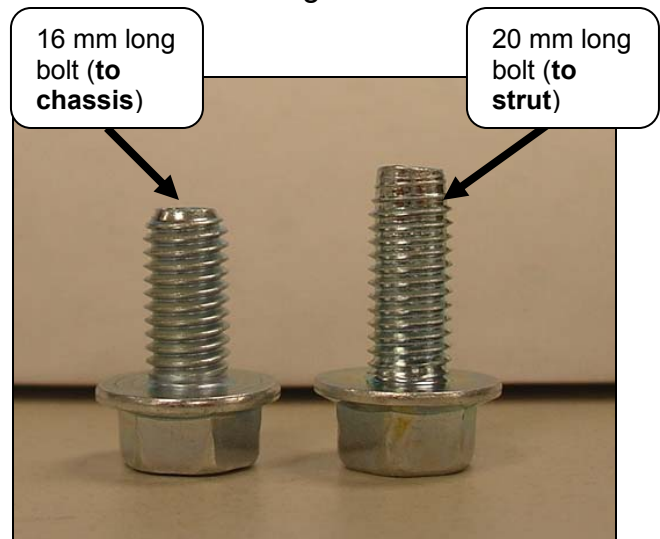
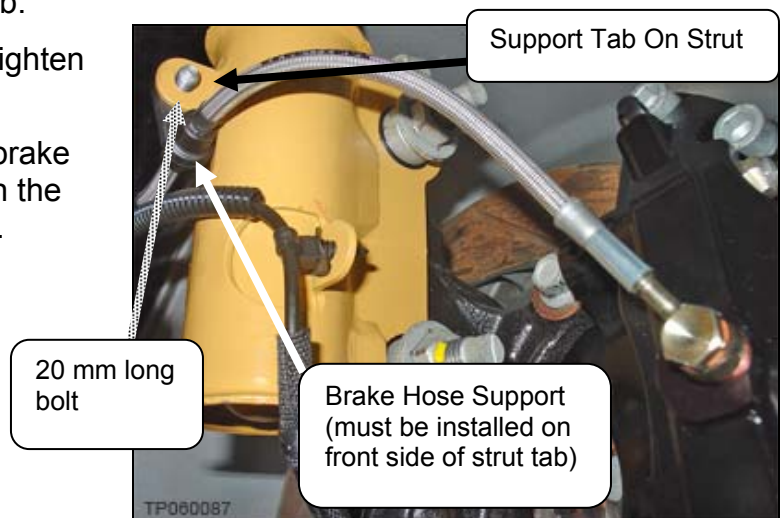

Figure 4
Figure 5
9. **PAY SPECIAL ATTENTION TO WHICH BOLT IS USED IN WHICH LOCATION.** Secure the brake hose support to the tab on the strut with the provided M8X1.25X**20MM** bolt (it is the longer of the two types of provided bolts, shown in Figure 4), making sure the hose support is installed on the front side of the strut tab (see Figure 5).
13. Secure the brake hose/hard line to the vehicle frame rail with the provided rubber padded support clamp and 16mm long bolt (see Figures 4 & 8).